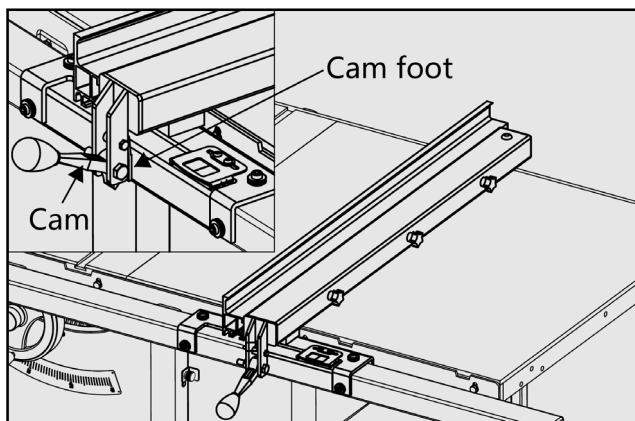

Fig. 9
2. Place the fence on the rails on the right hand side of the blade as shown in Fig. 9.
Make sure the cam foot contacts the cam on the fence lock handle before you place the fence on the rail, otherwise the fence will not lock into the rail tube, refer to Fig. 9.